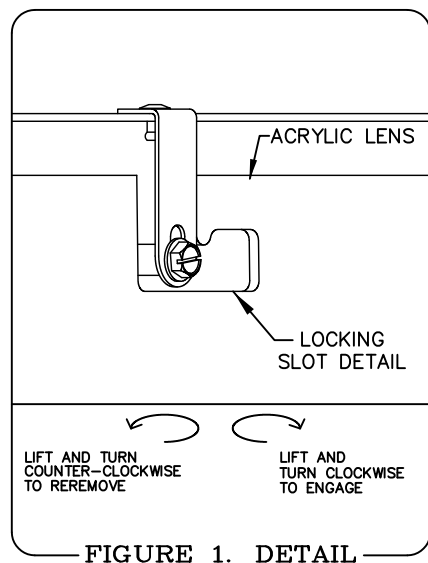

FIGURE 1. DETAIL
1. REMOVE LENS BY TURNING BODY RIGHT SIDE UP AND LET LENS FALL OUT. IF LENS DOES NOT FALL OUT, GENTLY PUSH UP ON LENS AND ROTATE COUNTER CLOCK-WISE (SEE FIG. 1 DETAIL).